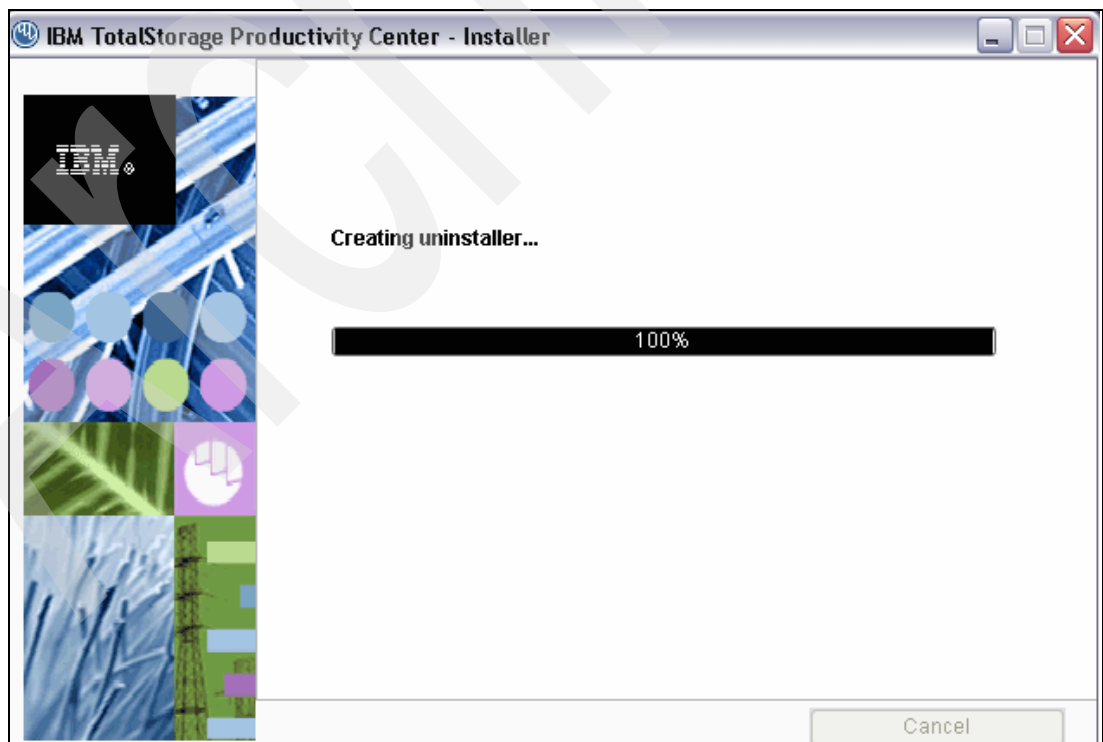

Figure 6-35 Installer status
8. The installation installs Java and the required components. A status bar indicates the progress of the installation (see Figure 6-35).